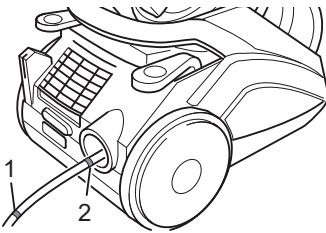
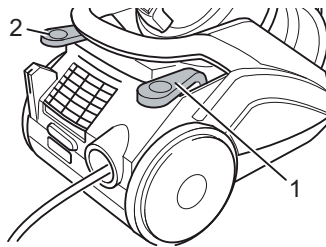

Fig. 14
Fig. 15
2. Pull out the cord by the plug to the yellow mark (Fig. 14/1).
Danger of electric shock! If the red mark (Fig. 14/2) is visible, retract the cord using the cord retraction button back (Fig. 15/3) to the yellow mark (Fig. 14/1). Otherwise, the power cord may be damaged.
3. Switch on the appliance with the on/off switch (Fig. 15/2).